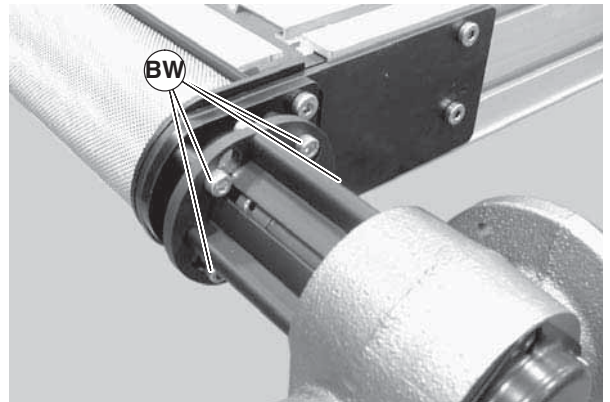

Figure 54
b. Loosen the four (4) lock screw (Figure 54, item BW).